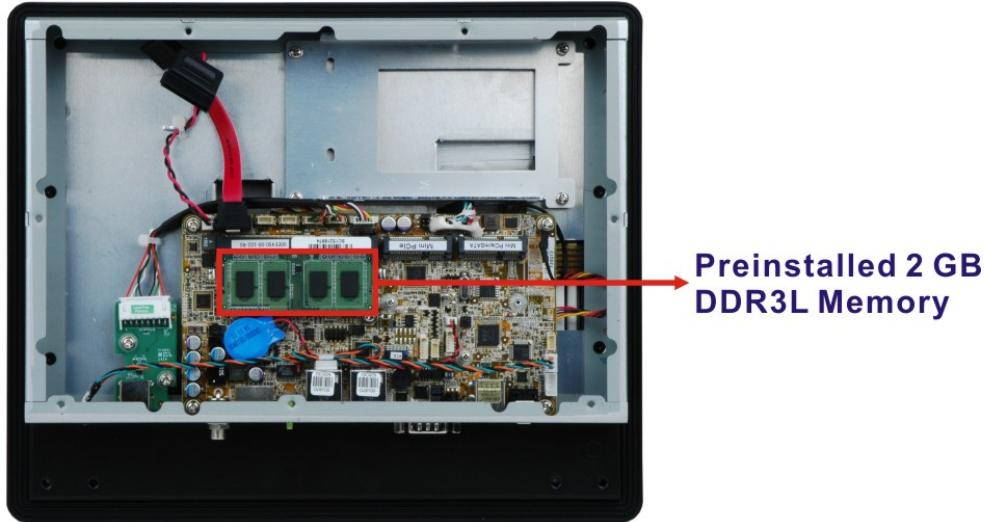

Figure 4-1: SO-DIMM Location
Step 2: Locate the SO-DIMM. (**Figure 4-1**).